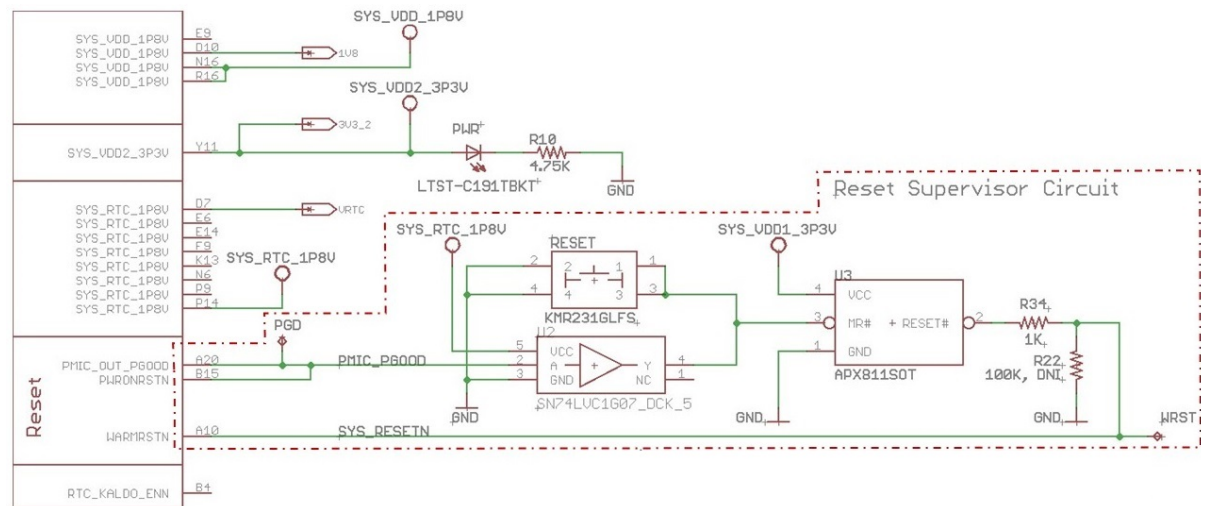

Figure 7: OSD3358-SM-RED reset mechanism
- WARMRESETN used as input driven by PWRONRSTN: In this use case, either an open drain buffer to translate between 1.8V and 3.3V or a reset supervisor are used. Additionally, a reset button with filter debounce can be added for user input reset function. This is demonstrated on OSD3358-SM-RED and is shown in Figure 7.